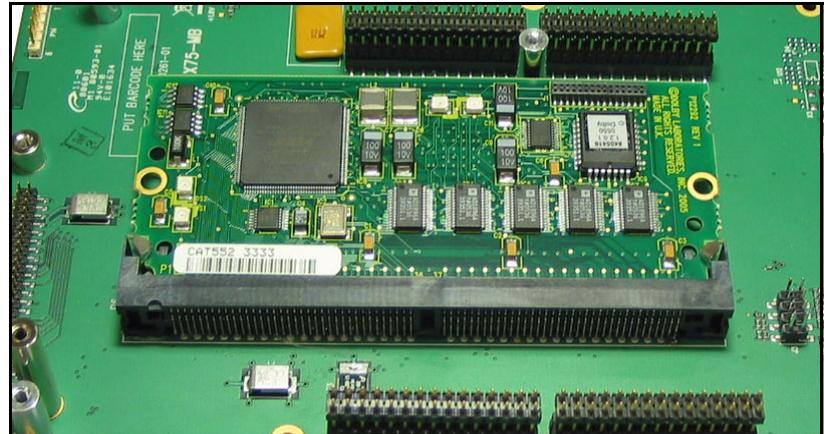

Figure 1-3. Dolby Decoder Module Installed
7. Press the module edges down slowly until you hear the metal clips click. (See Figure 1-3.)